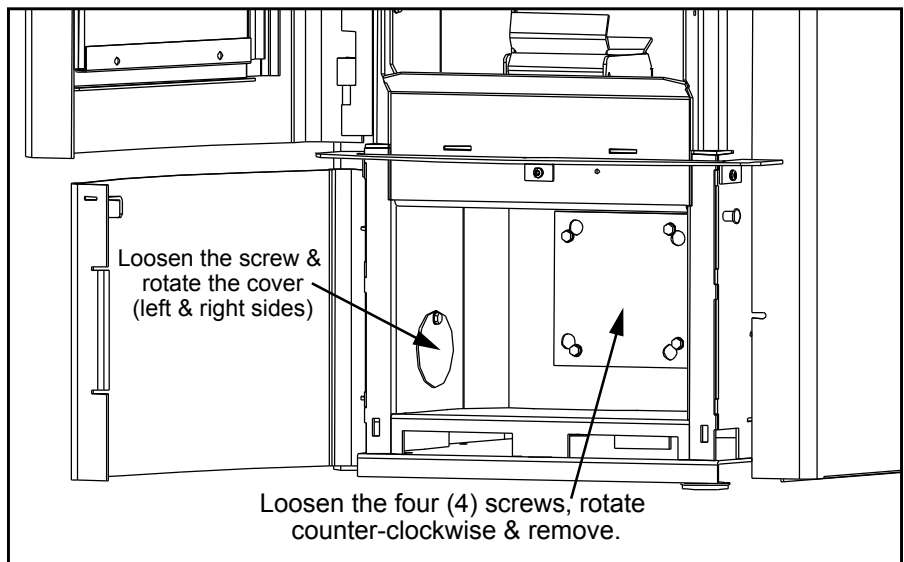

Figure 10: Mini Clean-Out Covers.
- Using a $\frac{5}{16}$ " socket, loosen the six (6) screws in the ash box compartment; four (4) on the back and one (1) on each side (see Figure 10).
- Vacuum out all three (3) chambers.